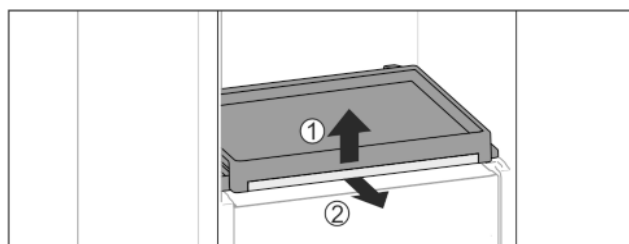

Fig. 37
- ▶ To remove the pull-out board with glass panel: Gently lift the glass panel at the front Fig. 37 (1) and pull out to the front Fig. 37 (2).